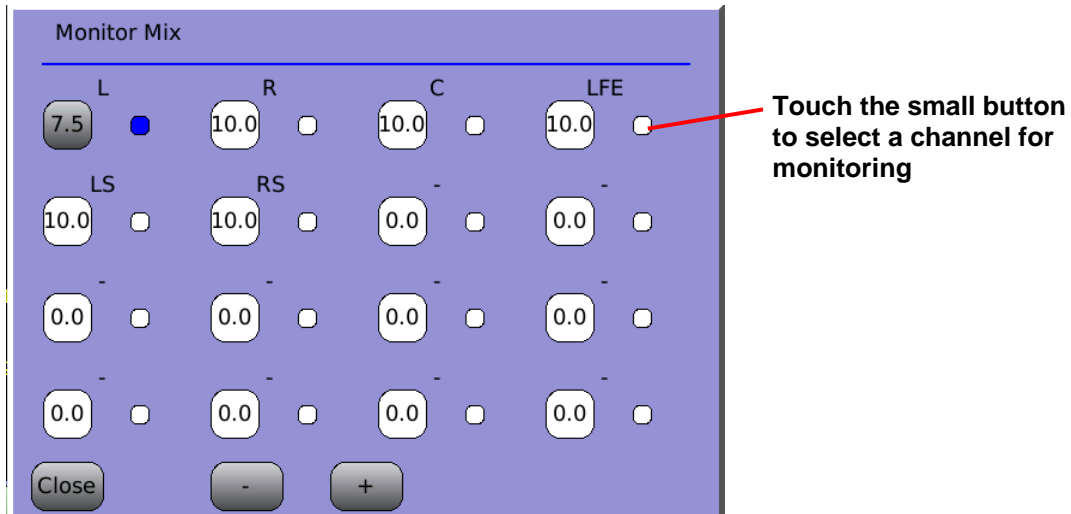

Figure 9. Monitor Mix
- Touch the **Mix** button to select a channel and adjust the volume from 0 to 10. See Figure 9, below.